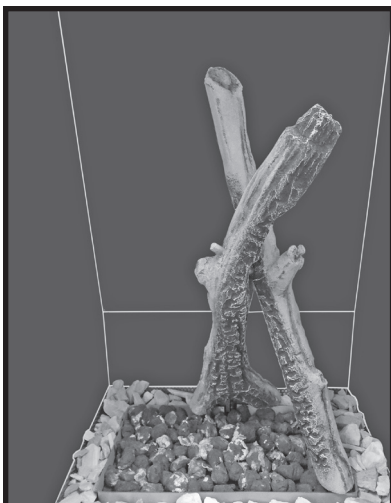

Figure 49: Log 2.
2. Interlock right log #2 with rear log (Figure 49).